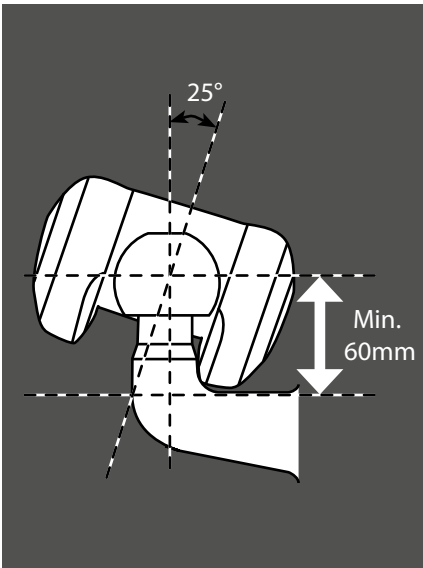

Figure 2 - Max suitable rotation of overrun device is 25°.
2. May not be suitable for use with overrun devices which can revolve above 25° (Fig 2) or BPW overruns fitted with gas strut handbrakes from 2001 model year onwards. (If in any doubt about usage consult your manufacturer).
3. Swan Neck towbars (fixed or detachable) are suitable for use with the AKS 3004 providing they comply to EC Directive 94/20 and have the required minimum 60mm clearance, measured from the centre of the towball (Fig 2).